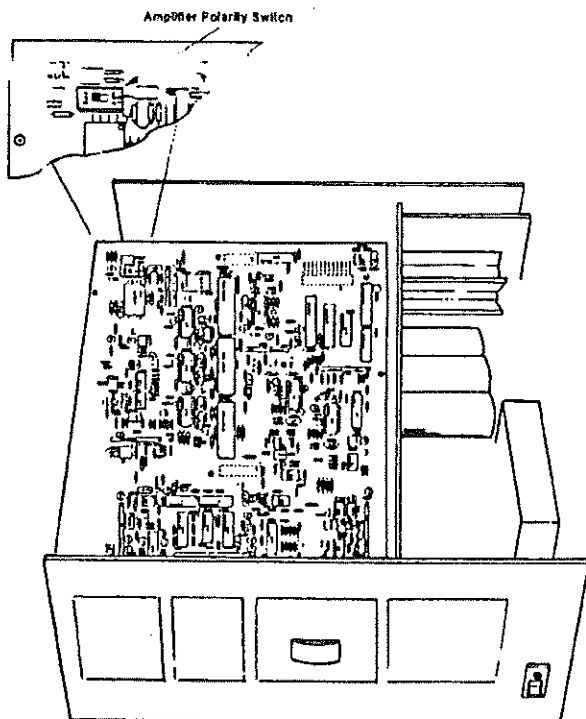

Fig. 3.2. Location of Amplifier Polarity Switch.
4. Locate the amplifier polarity switch. It is a small slide switch located in the far left corner on the top board in the 92X. See Fig. 3.2.